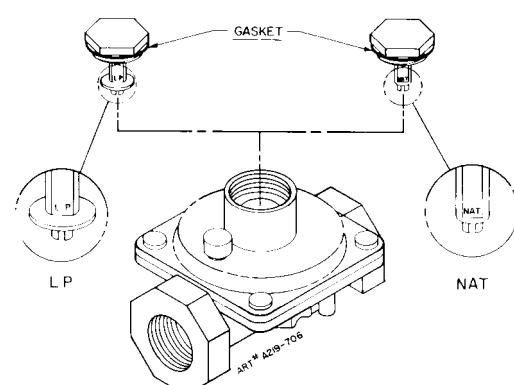

FIGURE 14
3. Remove cap and forcibly snap out plastic plunger from bottom of cap. Turn plunger over and forcibly snap back in original location (figure 14).